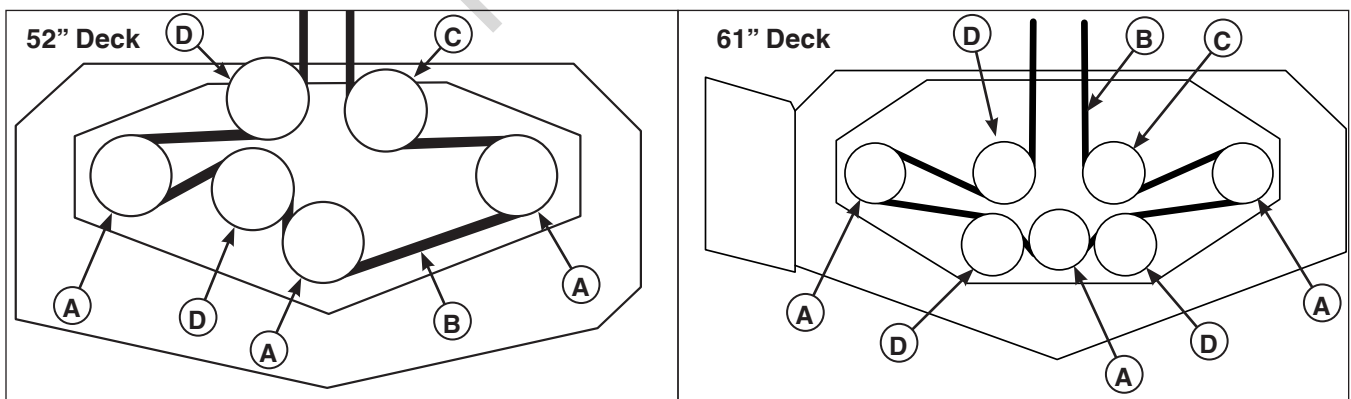

Figure 50. Mower PTO Belt Routing
4. Remove the old belt and replace with a new one. Make sure the V-side of the belt runs in the pulley grooves (Figure 50).
4. Measure the coil length of the mower belt tensioner spring (A, Figure 50). The measurement should equal the measurement as designated in the chart. If the measurement does not equal the measurement as designated in the chart, adjust the anchor eyebolt (B).
1. Loosen the jam nut (C, Figure 50).
2. Turn the adjustment nut (D) until the measurement as designated in the chart is achieved.